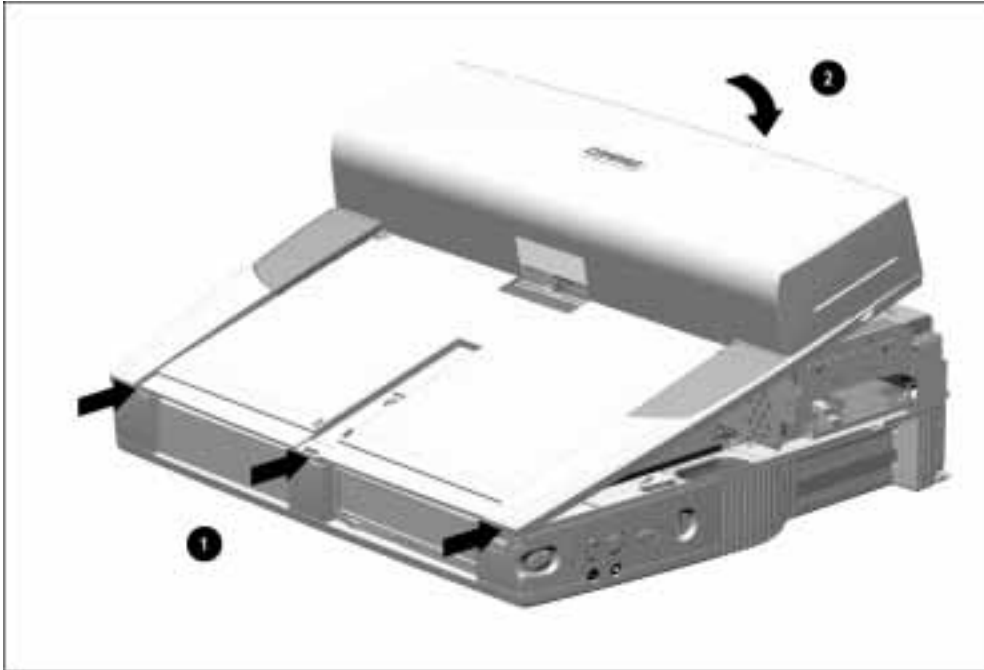

Figure 5-13. *Installing the Upper Case Assembly*
1. Align the front edge of the upper case assembly with the front edge of the base assembly ❶ (Figure 5-13).
2. Swing the back of the upper case assembly back and down until it rests on the base assembly ❷.